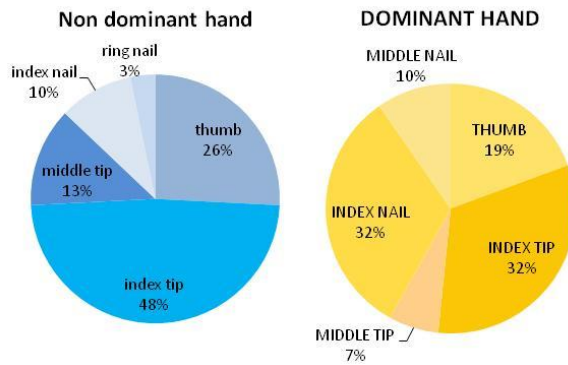

Figure 4: Example of plot for Frequency of the position where the maximum dose is found (hands independents).
- d. Frequency of the position where the maximum dose is found for dominant and non dominant hand. Consider hands independently, so for each worker, you will have 2 maximum points, one in each hand. See Figure 4.